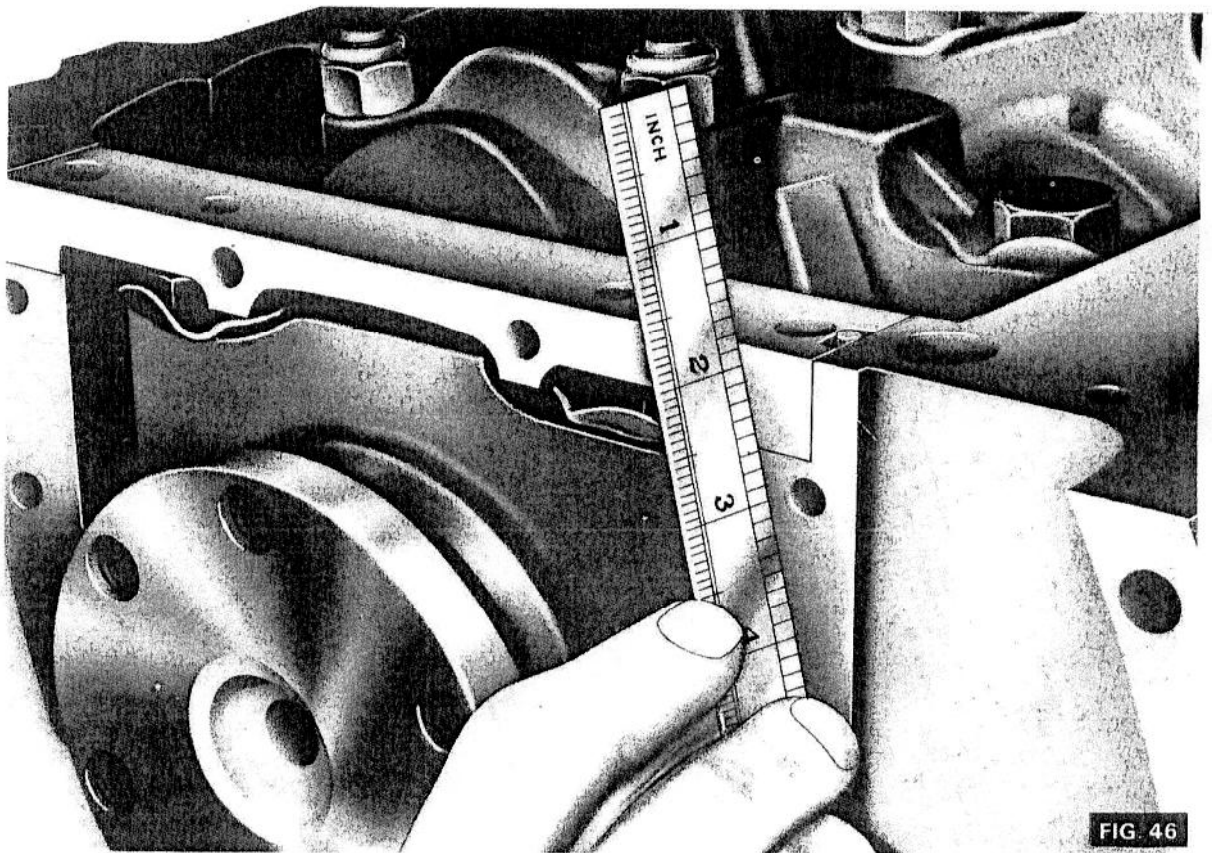

FIG. 46
13. Ensure that the rear face of the bridge piece is in alignment with the rear face of the cylinder block (see Fig. 46).